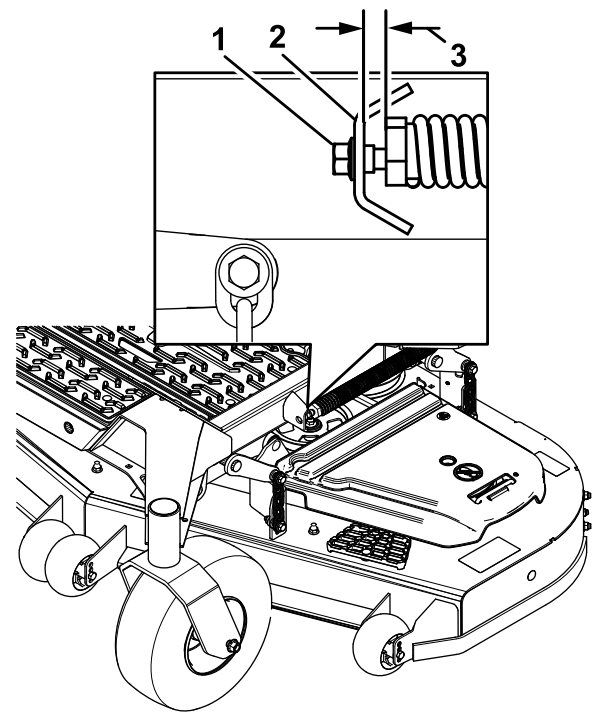

Figure 81
10. Slowly loosen the adjusting screw on the lift-assist spring until you can remove the screw (Figure 81).